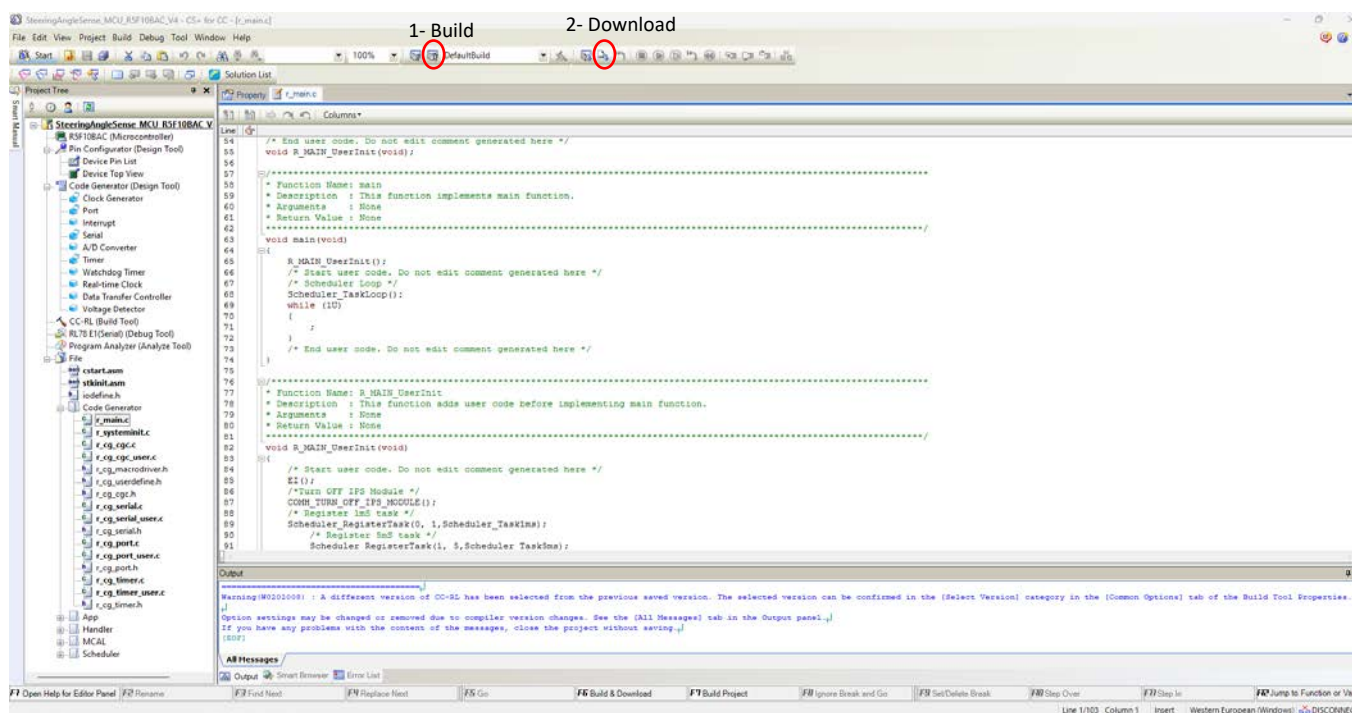

Figure 11: Build and Download the Project
2. After the project opens (see Figure 11), click on the Build icon (marked as 1), or press F7 to build the project. After the build is successful, click on the Download icon (marked as 2), or press F6 to download the project.